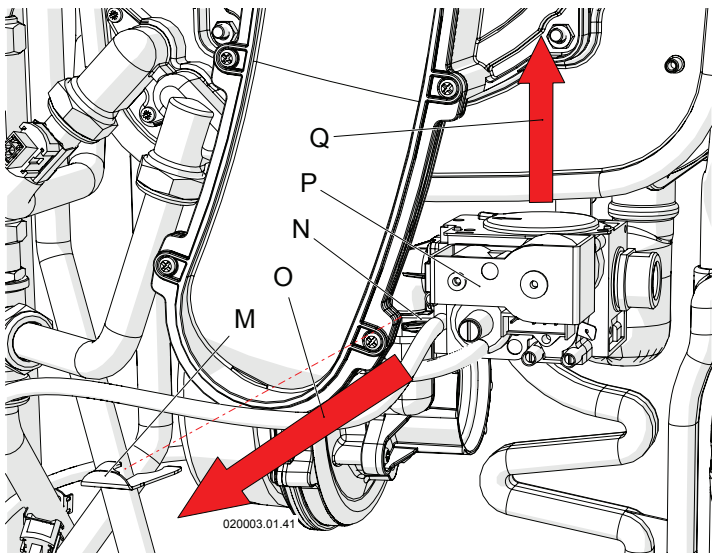

Figure 6-4 - Removing the gas valve
- 15 - remove the clamping spring "M" from the seat "N" releasing the valve "P"(See figure 6-4);
18. - remount the gas valve (see figure 6-4, detail "P"), making sure to reposition the spring "M".